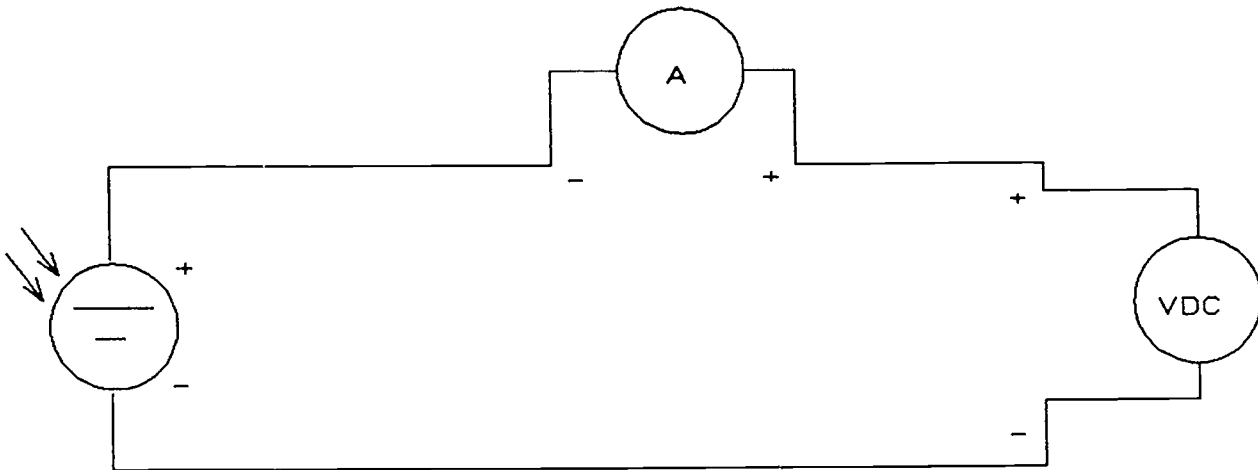

Figure G-10-2
- A. Connect photovoltaic cell and meters as shown in Figure G-10-2, "Photovoltaic Cell Wiring Diagram."